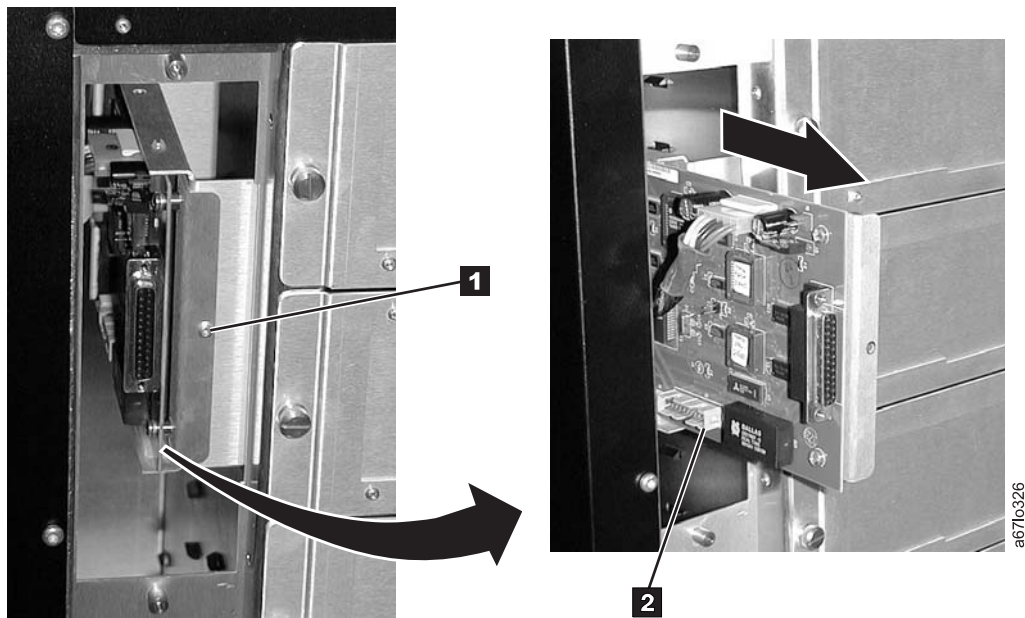

Figure 8-30. Sliding the Main Controller PCBA Out of the Guiding Tracks
7. Remove the T8 Torx screw (**1** in Figure 8-30) holding the Main Controller PCBA to the library chassis and slide the Main Controller PCBA partly out of the guiding tracks.